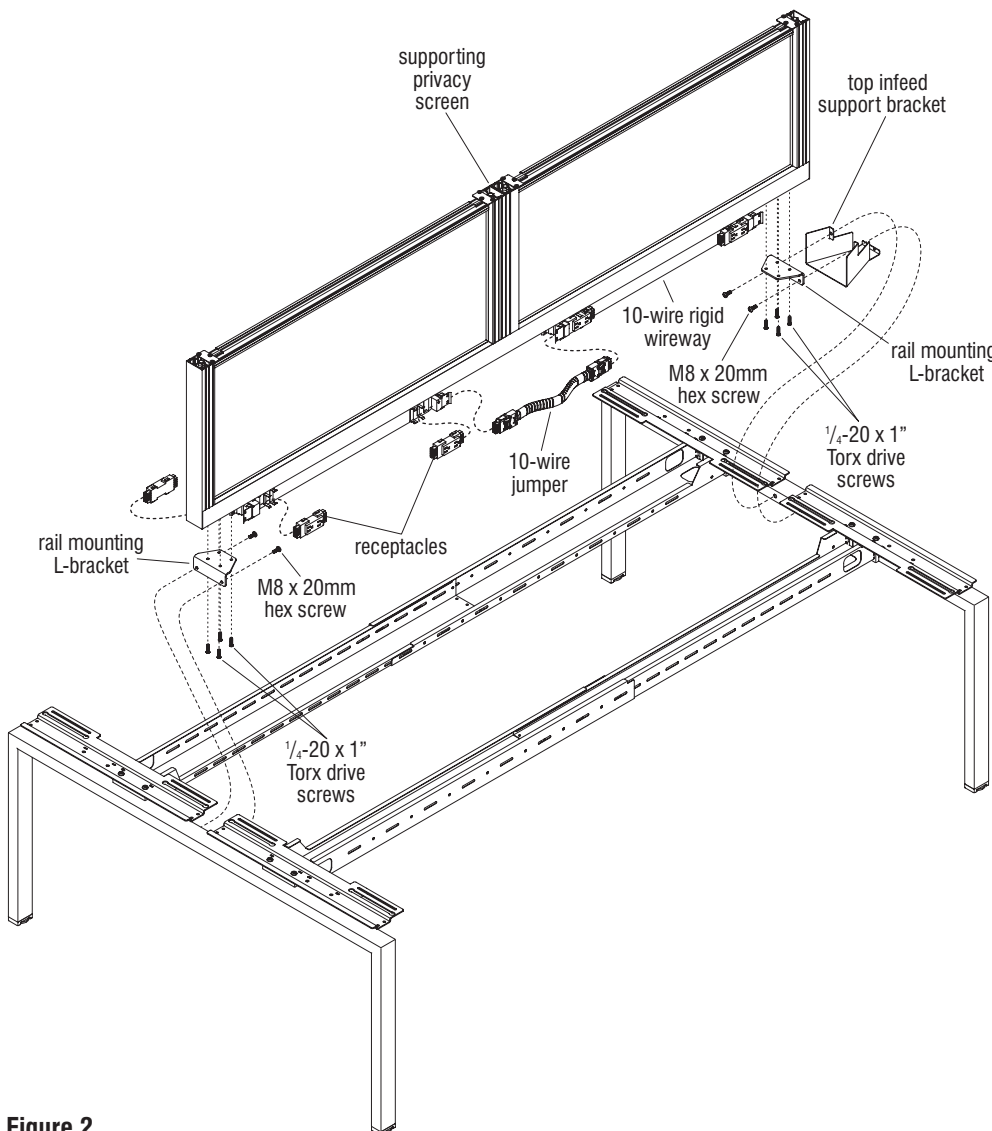

Figure 2
Important: At locations where a top power infeed is specified, a “top infeed support bracket” must attach to the inside of a leg at the 10-wire power infeed location before a “rail mounting L-bracket” can be installed (Figure 2).
5. Begin by installing two rail mounting L-brackets, one at each of the two center locations on end legs as illustrated. Secure the rail mounting L-brackets using two M8 x 20mm screws per bracket. If top infeed support bracket is specified, install that under the rail mounting L-bracket at this time (Figure 2).
6. Set the supporting privacy screen assembly onto the installed rail mounting L-brackets. For stand-alone frame assemblies, center the supporting privacy screen exactly on the frames with equal overhang at each side. If the supporting privacy screen is to install to an intermediate, or shared support frame on either end, the end of that supporting screen will be $\frac{1}{16}$ ” short of center on the shared/intermediate end frame (Figure 2).
7. With supporting privacy screen correctly positioned over rail mounting L-brackets, insert four $\frac{1}{4}$ ”-20 x 1” Torx drive screws through each L-bracket, insert into the threaded channels of the rail under the supporting screen, and tighten to secure (Figure 2).
8. If specified, the supporting privacy screen may contain one or two 10-wire rigid wireways attached to the rail, depending on length of screens. If two rigid wireways are attached, plug the appropriate power jumper in between the wireways. Locate and plug all duplex receptacles into both sides of the 10-wire rigid wireways, taking care to follow the space-planning layout for correct receptacle number/placement (Figure 2).